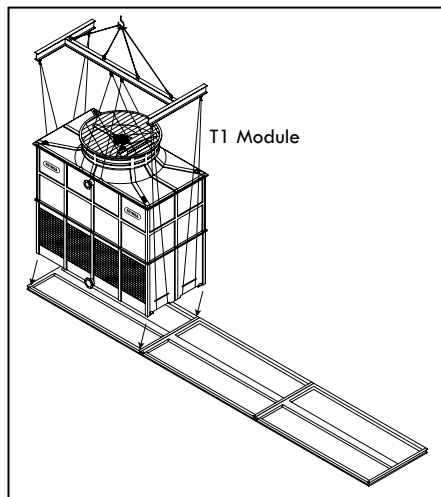

Figure A-100: S-Orientation - First T1 module lifting and installation (RTGM-B-S & RTGMTC-B-S)
- A. Lift the first module using a crane and a spreader bar and place it on top of the isolation pad and the steel base structure. Secure it with the galvanized steel nut and bolts sets (supplied by others) as shown on Figure A-100.